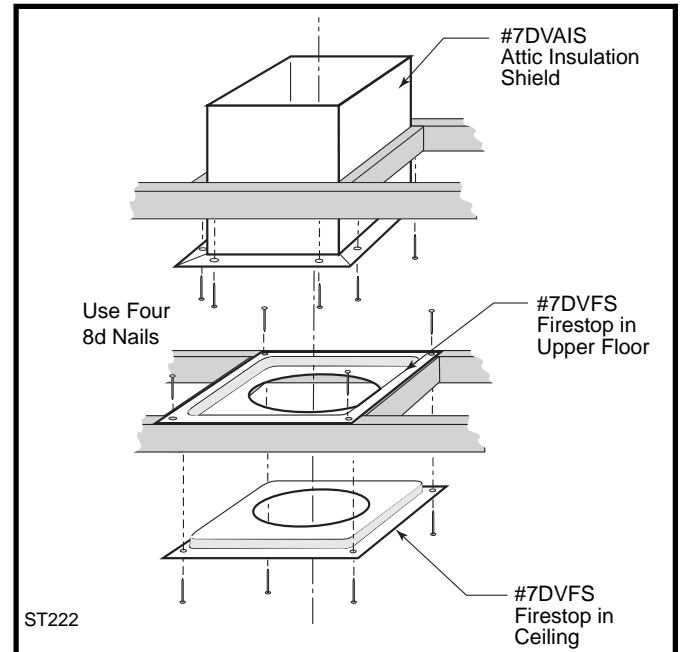

Fig. 40 Install firestops and attic insulation shield.
6. Install firestop(s) #7DVFS and Attic Insulation Shield #7DVAIS as needed. (Fig. 40) If there is a room above ceiling level, a firestop must be installed on both the bottom and top sides of the ceiling joists. If an attic is above ceiling level, an attic insulation shield must be installed.